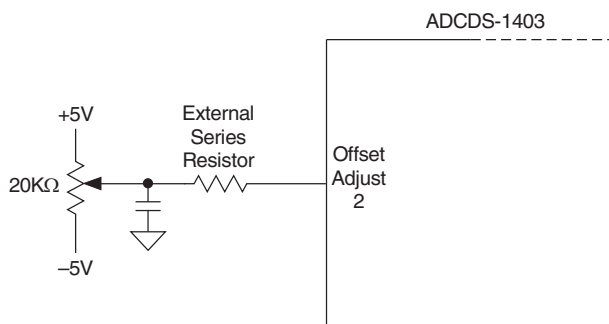
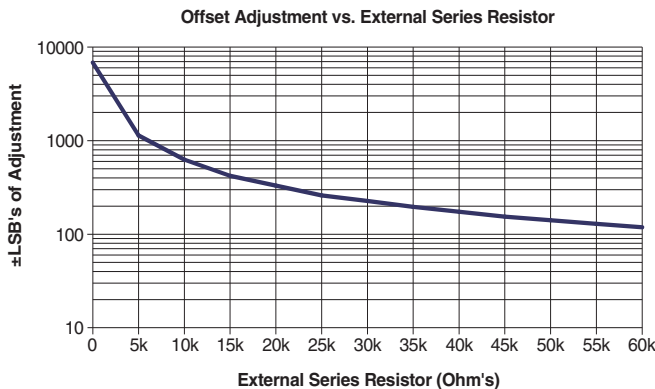

Figure 3. Offset Adjustment Circuit
Figure 6. Offset Adjustment vs. External Series Resistor
3. If using the suggested offset and gain adjust circuits (Figure 3 & 5), place them as close to the ADCDS-1403's package as possible.
Manual offset adjustment for the ADCDS-1403 can be accomplished using the adjustment circuit shown in Figure 3. A software controlled D/A converter can be substituted for the 20KΩ potentiometer. The offset adjustment feature allows the user to adjust the Offset/Dark Current level of the ADCDS-1403 until the output bits are 00 0000 0000 0000 and the LSB flickers between 0 and 1. Offset adjust should be performed before gain adjust to avoid interaction. The ADCDS-1403's offset adjustment is dependent on the value of the external series resistor used in the offset adjust circuit (Figure 3). The Offset Adjustment graph (Figure 6) illustrates the typical relationship between the external series resistor value and its offset adjustment capability utilizing ±5V supplies.